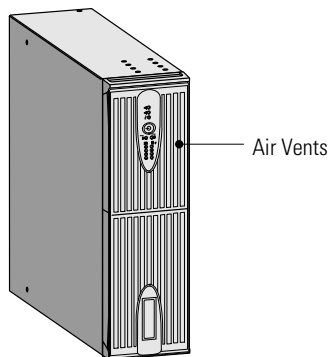

Figure 5. 3U Cabinet
1. Carefully position the cabinet upright with the air vents at the top (see Figure 5).